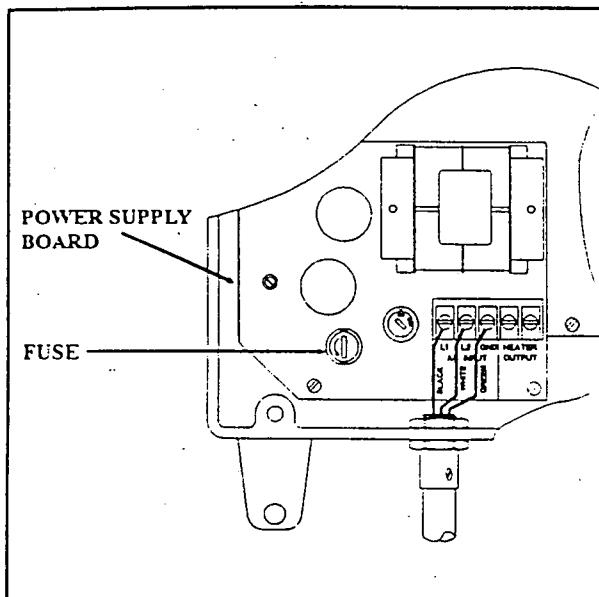

Figure 4-1
4. The fuse is located on the Power Supply board in the lower left corner of the flowmeter housing (Figure 4-1). Rotate the fuse extractor a quarter turn counter-clockwise with a straight slotted screwdriver. The fuse extractor along with the fuse will spring up above the top of the fuse holder. Lift the fuse extractor and fuse out of the flowmeter housing.